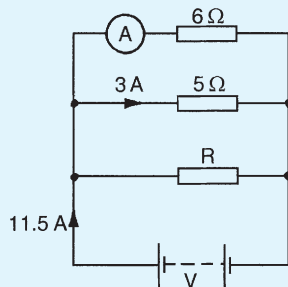

Figure 5.29
- For the circuit shown in Fig. 5.29 determine (a) the reading on the ammeter and (b) the value of resistor  $R$ .